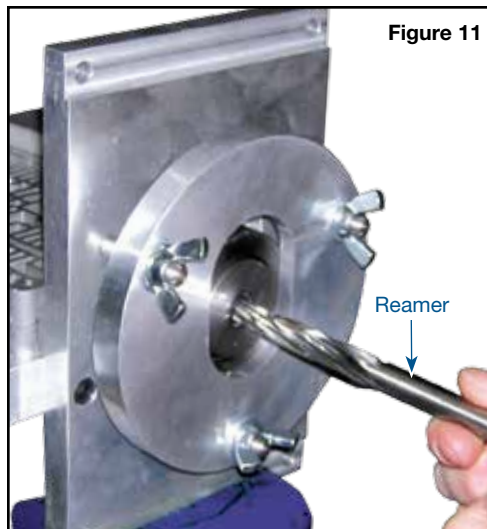

Figure 11
- j. Remove guide pin and install the reamer (Figure 11).